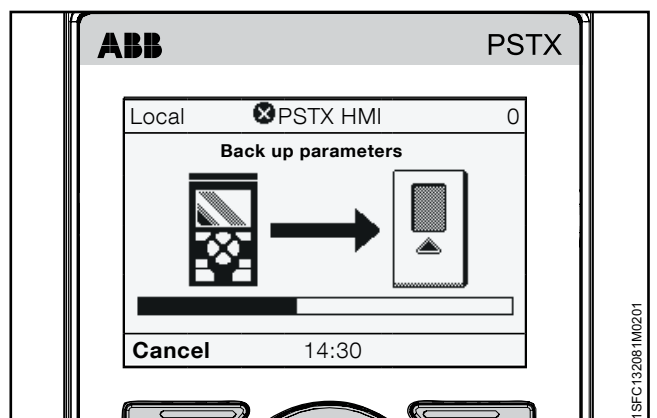

Figure 6.32
4. Push "Select" for the upload of the parameters. This shows as in Figure 6.32.